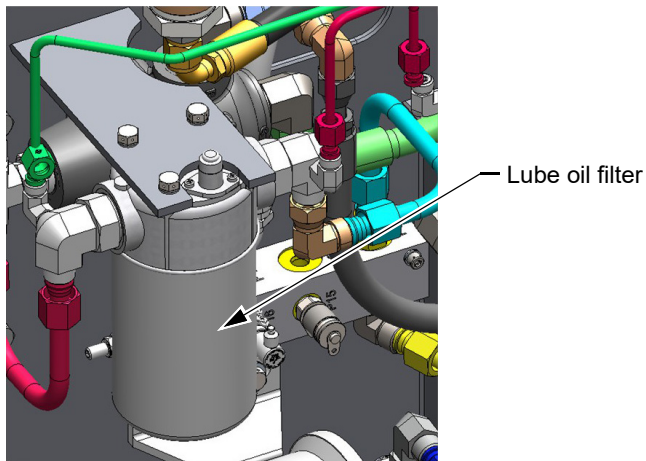

Figure 3: Lube oil filter
2. Inspect the lube oil filter shown in Figure 3 to ensure the filter is not clogged.